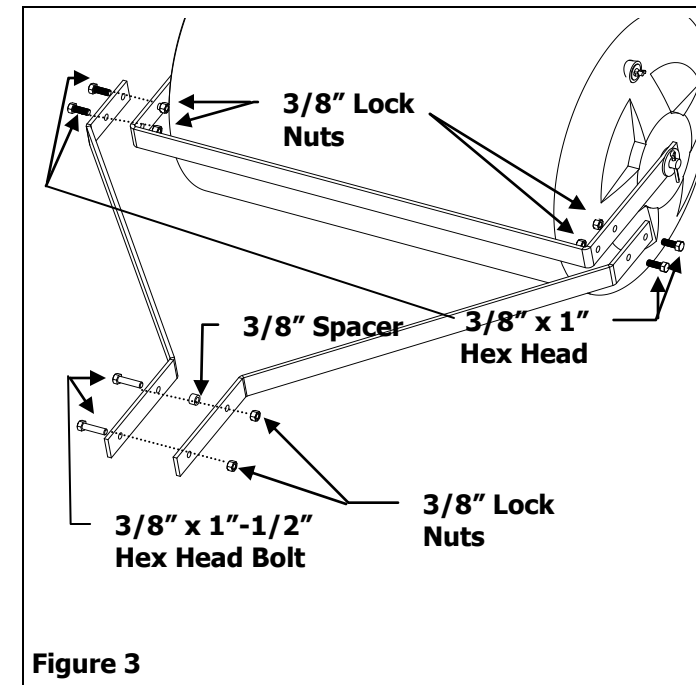

Figure 3
6. Attach the Hitch Side Bars to the Center Brace, using 3/8" x 1" Hex Head Bolts and 3/8" Lock Nuts. See Figure 3.
7. Insert the 3/8" x 3/8" Spacer between the two Hitch Side Bars. The Spacer needs to be attached to the second hole back from the front of the Hitch Side Bars. Secure the Spacer in place by inserting a 3/8" x 1-1/2" Hex Head Bolt through one Hitch Side Bar then the 3/8" x 3/8" Spacer and the other Hitch Side Bar. Thread a 3/8" Lock Nut onto the ends. NOTE: Do not tighten this bolt and nut yet. See Figure 3